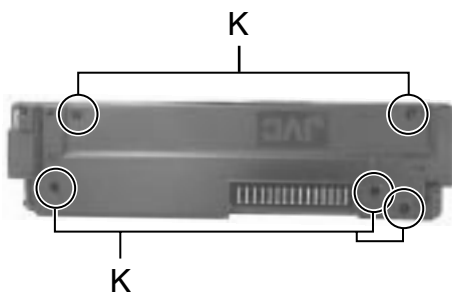

Fig 9
**■ Front panel unit (See Fig.9)**